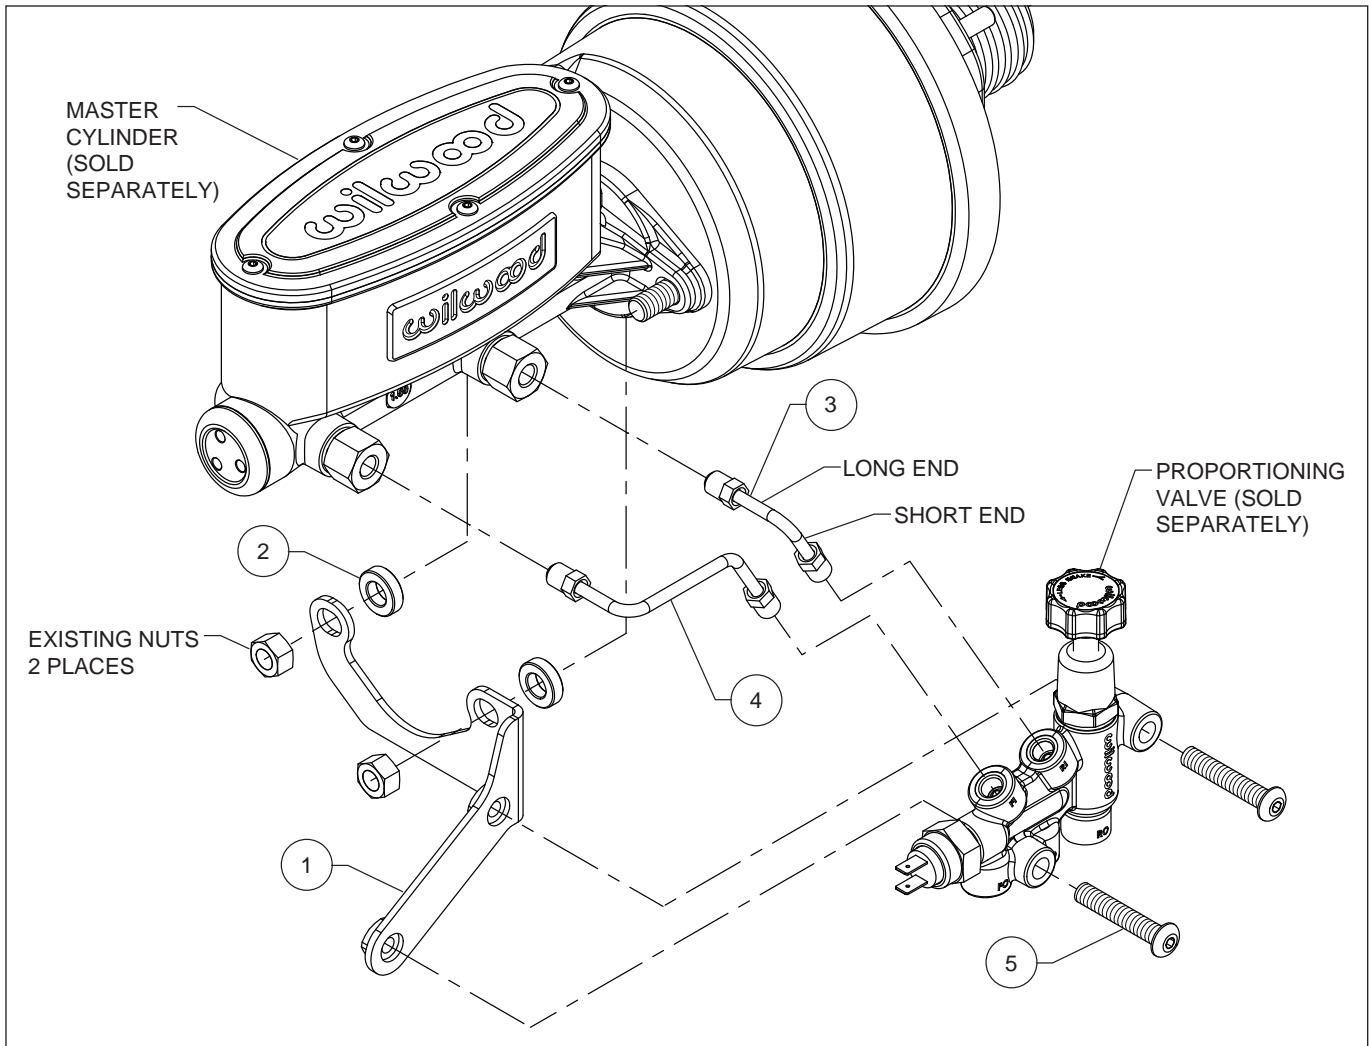

Figure 2. Proportioning Valve Bracket Kit Installation (left hand shown, right hand opposite)
- Mount the bracket (1) to the master cylinder using spacers (2) and existing nuts used to mount the master cylinder, as shown in Figure 2. Finger tighten.
- Install the short tube (3), "short end" into the fluid inlet "RI" in the proportioning valve, finger tighten. Install the long tube (4) into the "FI" fluid inlet, finger tighten.
- Connect the fluid tubes to the master cylinder, finger tighten. **NOTE:** If connecting to a previously installed master cylinder, be sure to plug the fluid inlets immediately when disconnecting the existing fluid lines and use a container to catch any fluid that may leak. Mount the proportioning valve to the bracket (1) using bolts (5), finger tighten. Check to be sure that everything fits and the tubes do not bind.